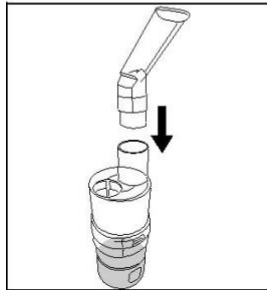

Fig. 4
7. Attach the selected mouthpiece to the top of the nebulizer, taking care not to spill the medication in the cup, Fig 4.